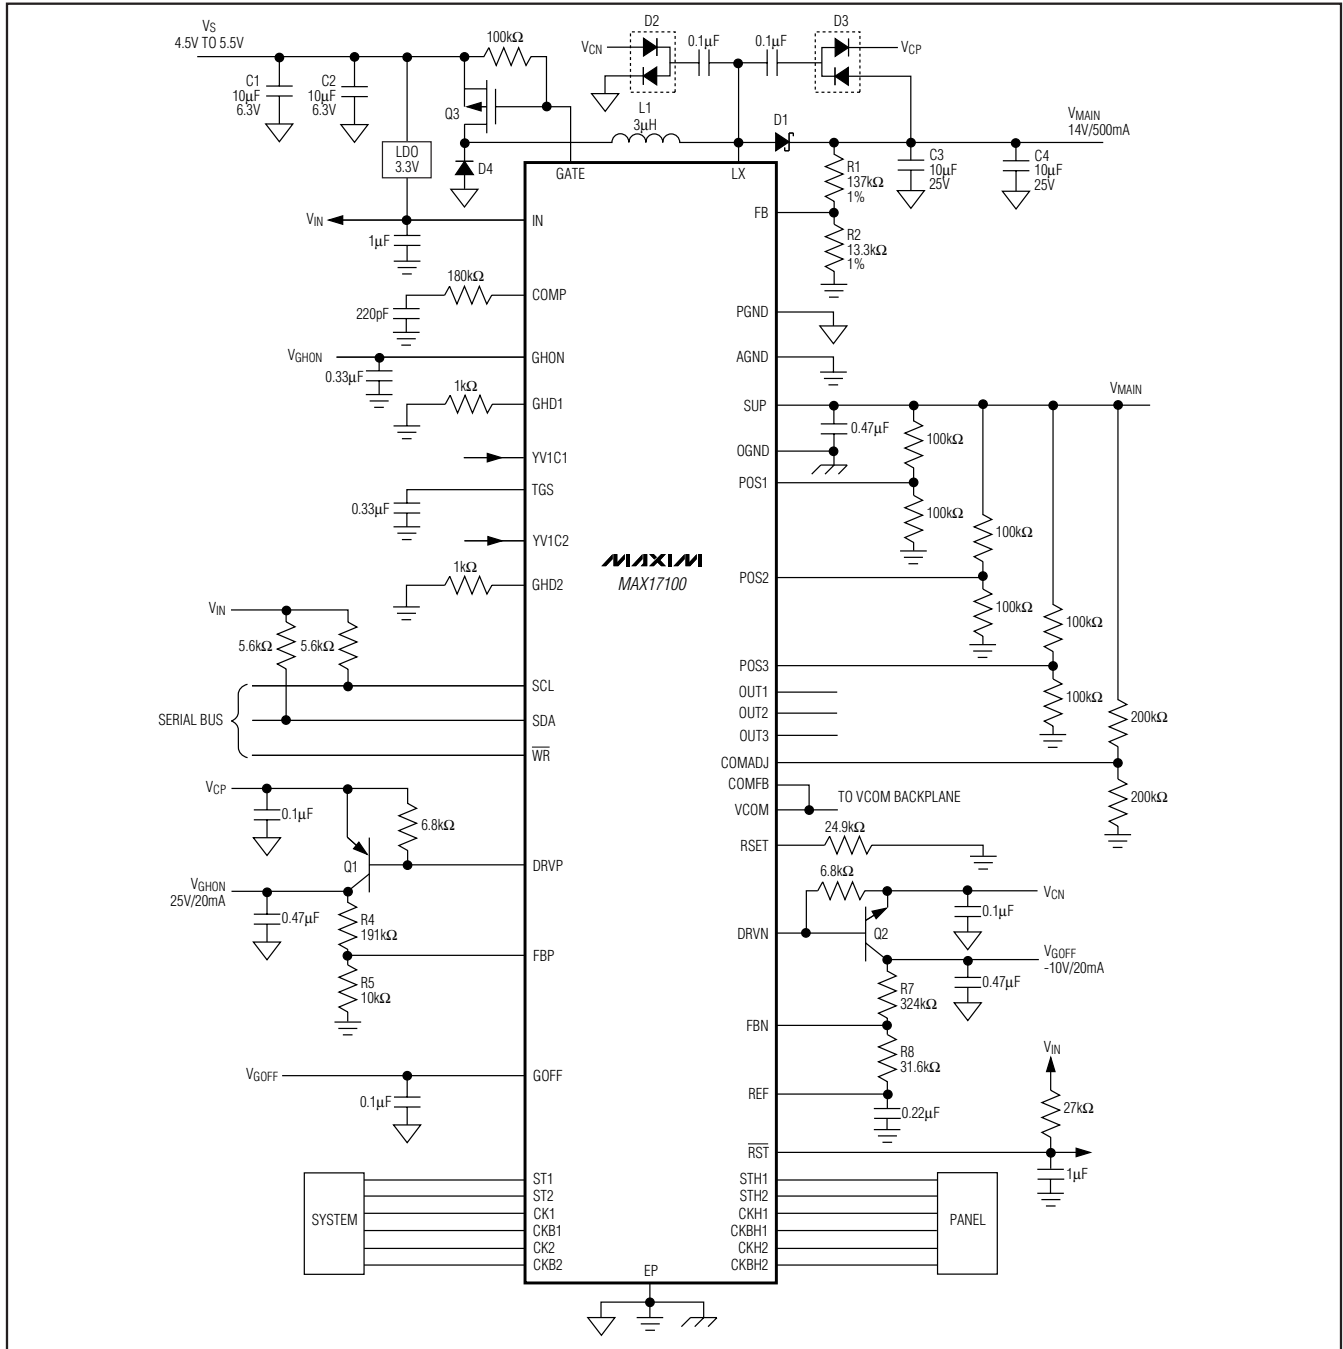
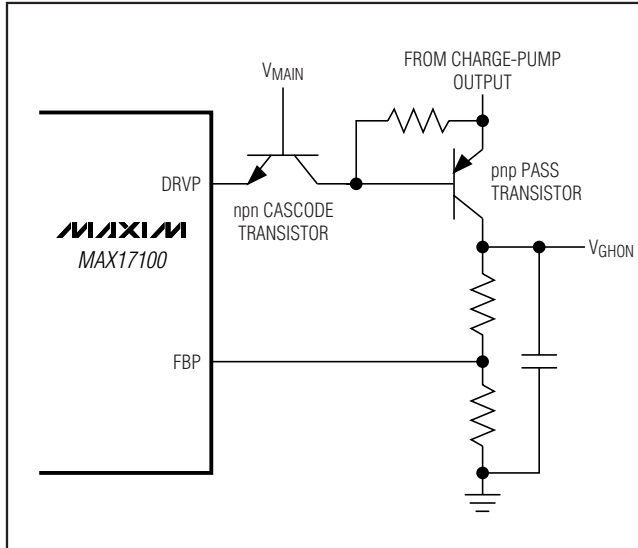
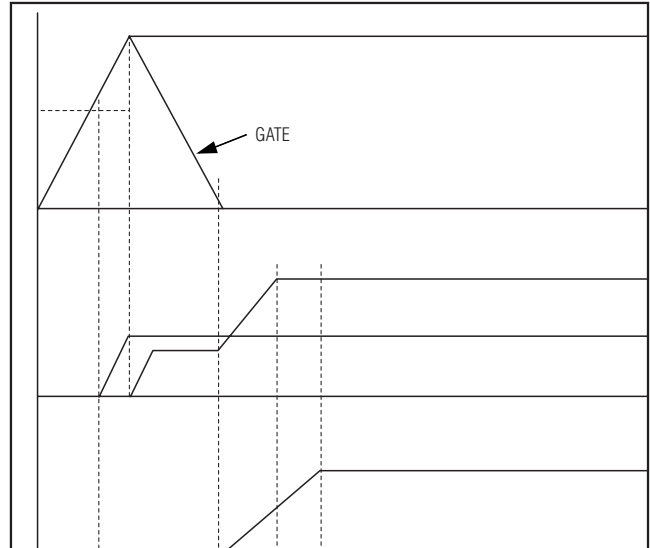

Figure 2. Typical Operating Circuit
Figure 5. Using Cascaded npn for Charge-Pump Output Voltages > 36V
Figure 6. Linear Regulator Controls the Intermediate Charge-Pump Stage
(Circuit of Figure 2, $V_S = 5V$, $V_{MAIN} = 14V$, $V_{GHON} = 25V$, $V_{GOFF} = -10V$, $T_A = +25^\circ C$, unless otherwise noted.)
The MAX17100 typical operating circuit (Figure 2) is a complete power-supply system for TFT LCDs. The circuit generates a +14V source-driver supply and +25V and
-10V gate-driver supplies. The input-voltage range for the IC is from +2.5V to +6.0V. The listed load currents in Figure 2 are available from a +4.5V to +5.5V supply. Table 1 lists some recommended components and Table 2 lists the contact information of component suppliers.
The gate-on linear-regulator controller is an analog gain block with an open-drain n-channel output. It drives an external pnp pass transistor with a $6.8\text{k}\Omega$ base-to-emitter resistor (Figure 2). Its guaranteed base drive sink current is at least 1mA. The regulator including Q1 in Figure 2 uses a $0.47\mu\text{F}$ ceramic output capacitor and is designed to deliver 20mA at 25V. Other output voltages and currents are possible with the proper pass transistor and output capacitor. See the *Pass-Transistor Selection* and *Stability Requirements* sections. REG P is typically used to provide the TFT-LCD gate drivers' gate-on voltage. Use a charge pump with as many stages as necessary to obtain a voltage exceeding the required gate-on voltage (see the *Selecting the Number of Charge-Pump Stages* section). Note the voltage rating of DRVP is 36V. If the charge-pump output voltage can exceed 36V, an external cascode npn transistor should be added as shown in Figure 5. Alternately, the linear regulator can control an intermediate charge-pump stage while regulating the final charge-pump output (Figure 6). REG P is enabled after the GATE voltage reaches the gate-on threshold voltage (1.5V typ). Each time it is enabled, the controller goes through a soft-start routine that ramps up its internal reference DAC in 128 steps.
The gate-off linear-regulator controller (REG N) is an analog gain block with an open-drain p-channel output. It drives an external npn pass transistor with a $6.8\text{k}\Omega$ base-to-emitter resistor (Figure 2). Its guaranteed base-drive source current is at least 1mA. The regulator including Q2 in Figure 2 uses a $0.47\mu\text{F}$ ceramic output capacitor and is designed to deliver 20mA at -10V. Other output voltages and currents are possible with the proper pass transistor and output capacitor (see the *Pass-Transistor Selection* and *Stability Requirements* sections). REG N is typically used to provide the TFT-LCD gate drivers' gate-off voltage. A negative voltage can be produced using a charge-pump circuit as shown in Figure 2. REG N is enabled after the GATE voltage reaches the gate-off threshold voltage (1.5V typ). Each time it is enabled, the control goes through a soft-start routine that ramps down its internal reference DAC from V_{REF} to 250mV in 128 steps.